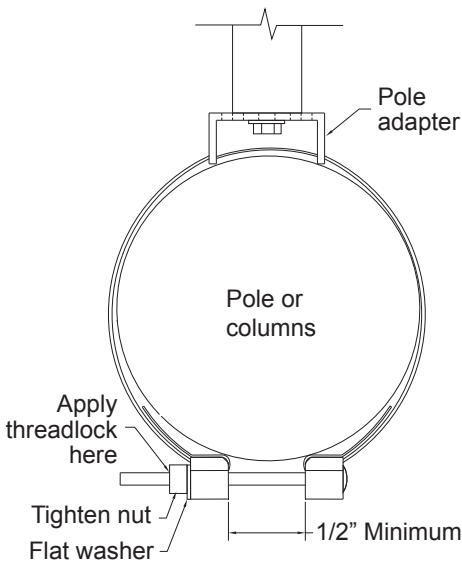

Figure 5
Step 7: Tighten the Carriage Bolt Assembly until all slack has been removed from the fully loaded assembly. retainer blocks must have a minimum of 1/2" gap after fully tightened. Do not overtighten (Figure 5).